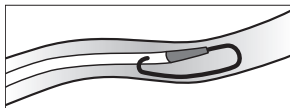

Figure 4
**⚠ Caution:** If resistance is encountered when attempting to remove guidewire after catheter placement, guidewire may be kinked around tip of catheter within vessel (refer to Figure 4).